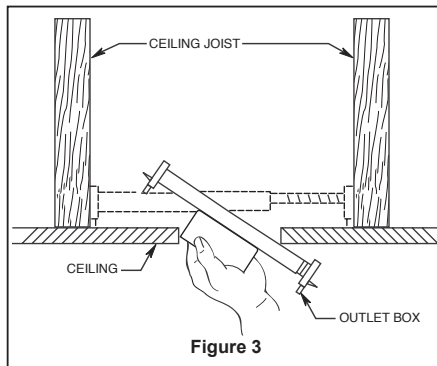
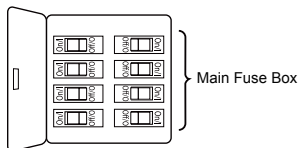
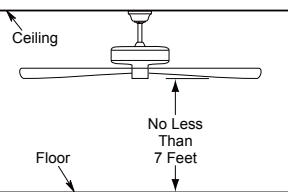

Figure 3
Figure 1
Figure 2
Your new ceiling fan will require a grounded electrical supply line of 120 volts AC, 60 HZ, 15 Amp Circuit. Electrical code requires use of a fan-rated outlet box to support the extra weight and motion associated with a ceiling fan. A fan-rated box will be labeled as such and typically supports up to a 70lbs ceiling fan. Fan-Rated Outlet Boxes vary in ratings and design. Ensure the ratings of your ceiling fan outlet box meet the requirements for the ceiling fan being installed. Figure 1, Figure 2 and Figure 3 depicts different structural configurations that may be used for mounting the outlet box.
Low-profile use (Figure 1)
Deep-profile use (Figure 2)
Brace use (Figure 3)
1. Remove the hanger ball portion from the downrod/hanger ball assembly by loosening the set screw in the hanger ball until the ball falls freely down the downrod. Remove the pin from the downrod, then remove the hanger ball. Retain the pin and hanger ball for reinstallation in Step 6. (Figure 1)
2. Remove the hairpin clip and clevis pin from the bottom of the downrod. Retain the pin and clip for reinstallation in Step 4. (Figure 2)
3. Loosen the two set screws and locking nuts in the downrod support of the motor assembly. Route the brown, blue, red, gray and yellow wires through the downrod. (Figure 3)
- ☐ 1. Align blade holes with posts on the motor assembly flywheel. Make sure the blade is fully seated against the flywheel. Place blade plate over the blade with holes aligned and assemble blade to flywheel using pan head screw with lock washer. Fully tighten the screws that attach the blades to the motor assembly flywheel. (Figure 1)
To avoid possible fire or shock, be sure electricity is turned off at the main fuse box before hanging. (Figure 1)
The fan must be hung with at least 7' of clearance from floor to blades. (Figure 2)
1. To set the code on receiver unit, slide dip switches to the same positions as set on the remote control. (Figure 1)
To avoid possible electrical shock, be sure electricity is turned off at the main fuse box before wiring. (Figure 2)
- ☐ 1. Assemble canopy by rotating key slot in canopy over shoulder screw in hanger bracket and care not to pinch the wires. Tighten shoulder screw. Fully assemble and tighten second shoulder screw that was previously removed. (Figure 1)
- ☐ 2. Securely attach and tighten the canopy screw cover over the shoulder screws in the hanger bracket utilizing the key slot twist-lock feature. (Figure 2)
- ☐ 1. Remove one of the three screws in the support bracket at the bottom of the motor assembly. Retain the screw for later and slightly loosen the remaining two screws. (Figure 1)
- ☐ 2. Assemble the switch housing assembly to the support bracket using the two key slots in the switch housing assembly. Replace the previously removed screw and securely tighten all three screws. (Figure 2)
- ☐ **1. IMPORTANT:** Using a full range dimmer switch (not included) to control fan speed will damage the fan. To reduce the risk of fire or electrical shock, do not use a full range dimmer switch to control the fan speed. (Figure 1)
- ☐ **2.** Restore electrical power to the outlet box by turning the electricity on at the main fuse box. (Figure 2)